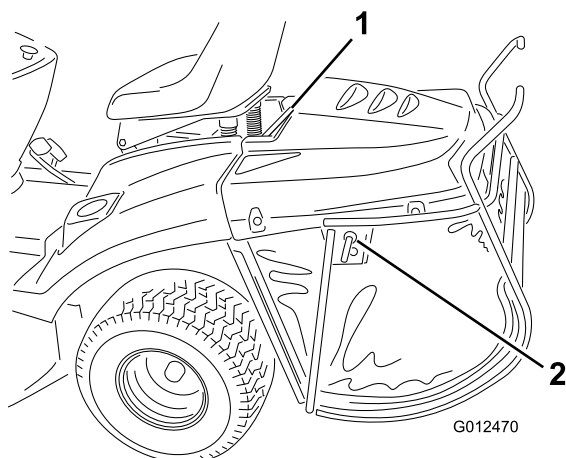

Figure 16
1. If the locking pin is in the locked position, unlock it (Figure 16).